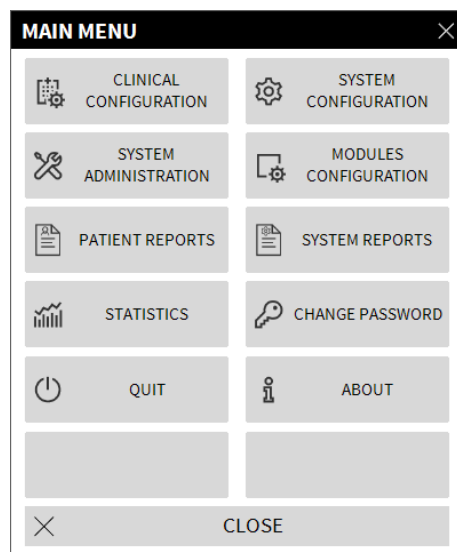

Fig 15
- Use the Menu button (Fig 14 **C**) to open the following window (Fig 15).